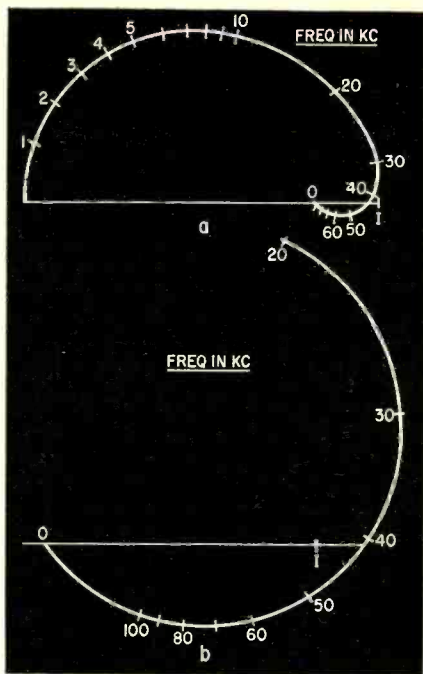

Fig. 4—Nyquist curves with frequency marked: a—stable; b—unstable.
This loop gain can be plotted either as two separate responses, one for magnitude and one for phase, or the information can be combined in a single Nyquist diagram, if desired, noting the frequencies along the curve (Fig. 4-a). In the Nyquist presentation, the magni-
The important thing about the diagram (known as the *Nyquist criterion*) is whether the curve stays "inside" point I , as at Fig. 4-a. Here, although the feedback gets to be positive instead of negative just above 40 kc, it is not enough to equal the input (OI), and hence the amplifier is stable. If the curve goes around point I , as in Fig. 4-b, the positive feedback at just over 40 kc is more than the original input and the amplifier will oscillate. But let's see what else we can learn from this diagram.